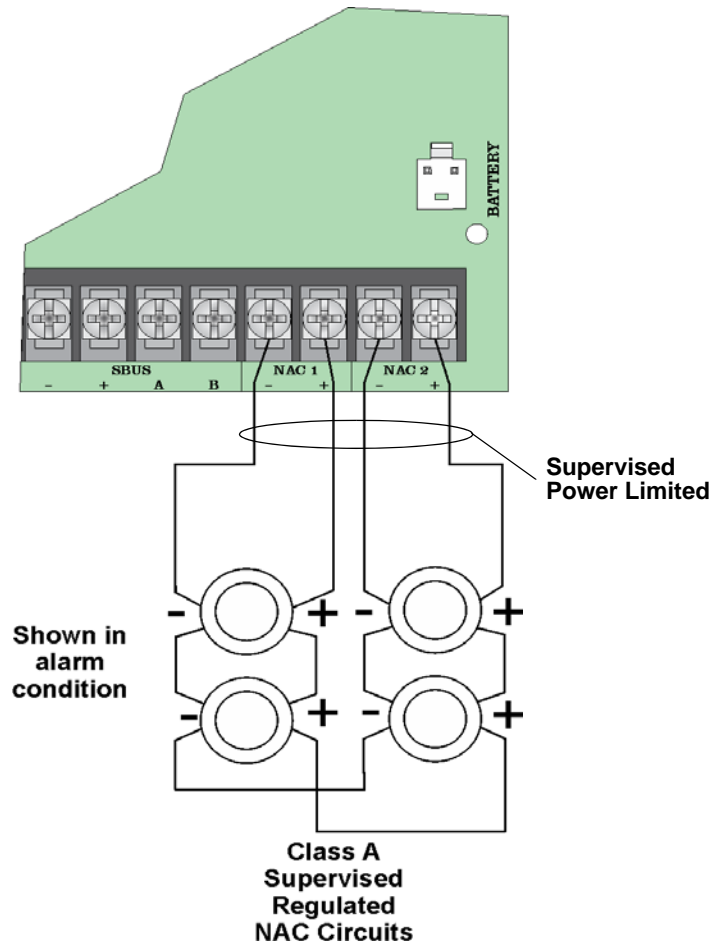

Figure 4-30 Class A Notification Appliance Circuit Configuration
1. Wire the Class A notification appliances as shown in Figure 4-30.